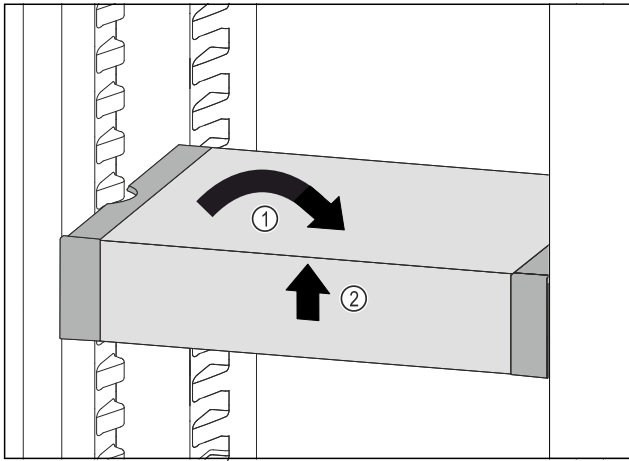

Fig. 94
- ▶ Set VarioSafe straight. Fig. 94 (1)
- ▶ Lift VarioSafe at the front. Fig. 94 (2)